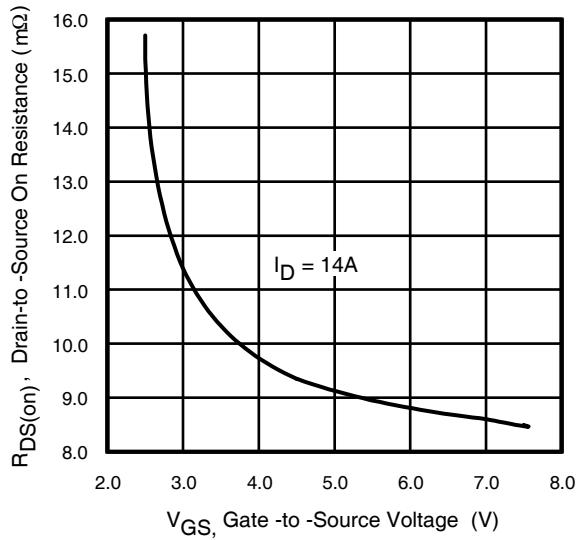
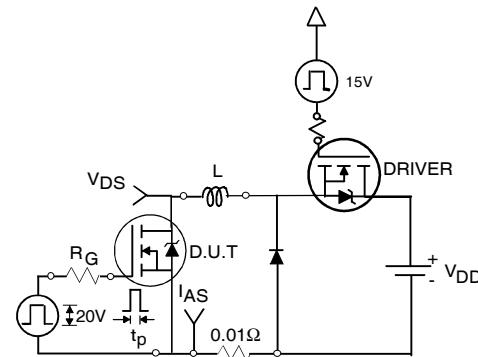

Fig 12. Typical On-Resistance Vs. Gate Voltage
Fig 16c. Unclamped Inductive Test Circuit
- ① Repetitive rating; pulse width limited by max. junction temperature.
- ② Pulse width $\leq 400\mu\text{s}$; duty cycle $\leq 2\%$.
- ③ Surface mounted on 1 in square Cu board.
- ④ Starting $T_J = 25^\circ\text{C}$, $L = 2.3\text{mH}$, $R_G = 25\Omega$, $I_{AS} = 14\text{A}$. (See Figure 12).
- ⑤ $I_{SD} \leq 14\text{A}$, $dI/dt \leq 140\text{A}/\mu\text{s}$, $V_{\text{DD}} \leq V_{(\text{BR})\text{DSS}}$, $T_J \leq 150^\circ\text{C}$.
- ⑥ Limited by $T_{J\text{max}}$, see Fig.16c, 16d, 19, 20 for typical repetitive avalanche performance.
3. Equation below based on circuit and waveforms shown in Figures 16c, 16d.